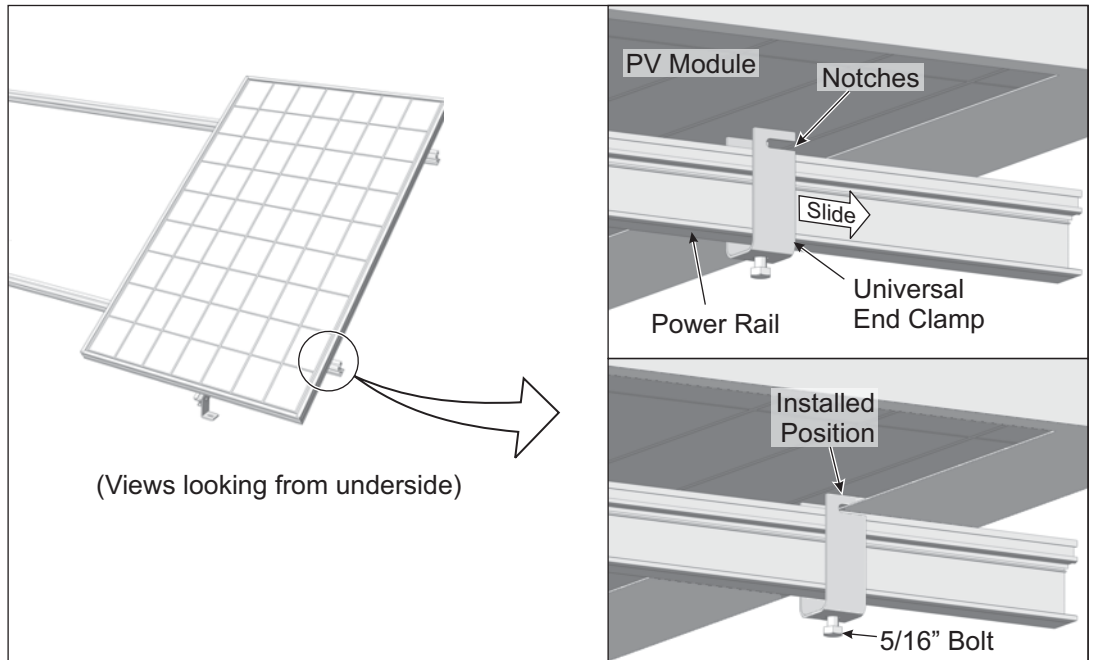

Figure 9-1: Installing PV Modules using Universal End Clamp
- B1. For use with "**Universal End Clamps**": Position Universal Clamp underneath the module with notches facing the outside edge of the module, and rail centered between 'forks' of the clamp. Slide clamp notches towards module flange until the flange bottoms out in the notches. Tighten 5/16" bolt on bottom of universal end clamp. **Torque to 14-16 ft.-lbs.** Repeat for both end clamps. (See Figure 9-1)